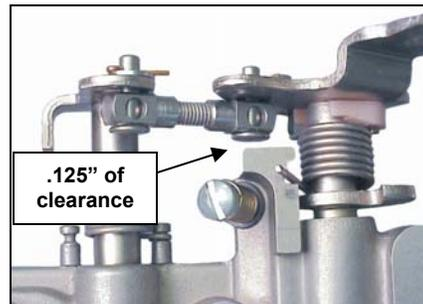

Figure 4 (1:1)
1. Install the Clevis pins through the link without any washers and install the link from the inside of the throttle arms (see Figure 4).
**NOTE:** For inside installation only: Make sure you have at least .125" between the head of the Clevis pin and the boss on the baseplate (where the idle adjustment screw is located). If you need more clearance, file or machine this area off of the baseplate (see Figure 4).